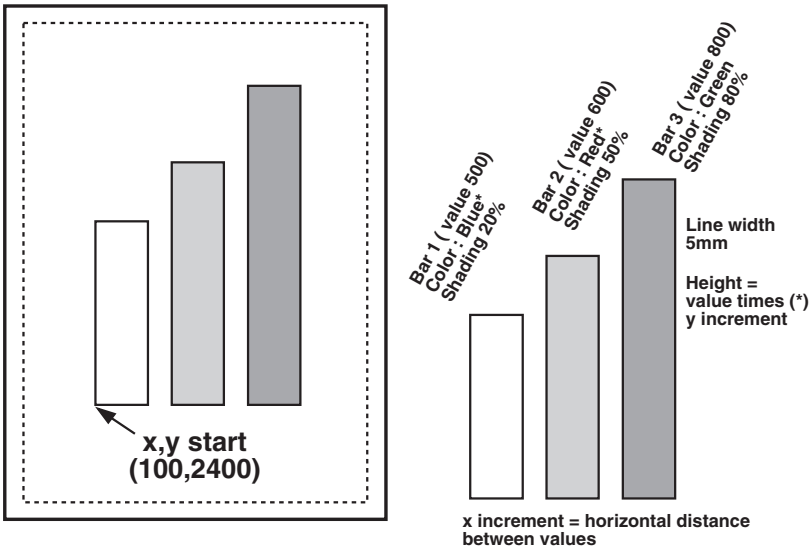

Figure 7-15. Bar chart (histogram).
-GH1;100;2400;300;1;100;3;500;600;800` draws three bars. If the attached printer is a PCL color printer, the first bar will be blue, the second red, and the third green. The bars will be shaded 20%, 50%, and 80% respectively, as shown in Figure 7-15.